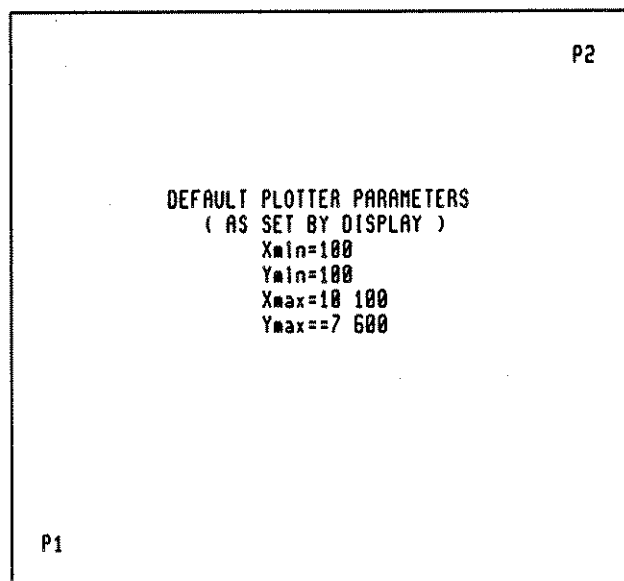

Fig. 51. Plotter Parameters as Set by HP 70205A and HP 70206A Displays
In figure 51, the default plotting area for the HP 7475A 6-Pen Graphics Plotter is outlined. P1 is the lower left corner, P2 is the upper right corner.
1. To set plotter parameters to their standard default values, press [DSP], *define hardcopy*, and *DEFAULT VALUES* (see *DEFAULT VALUES* description in this chapter). Xmin, Xmax, Ymin, and Ymax will be set to the values shown in the figure above (Figure 51). These values will allow 0.5 inch margins on 8.5 by 11 inch paper.